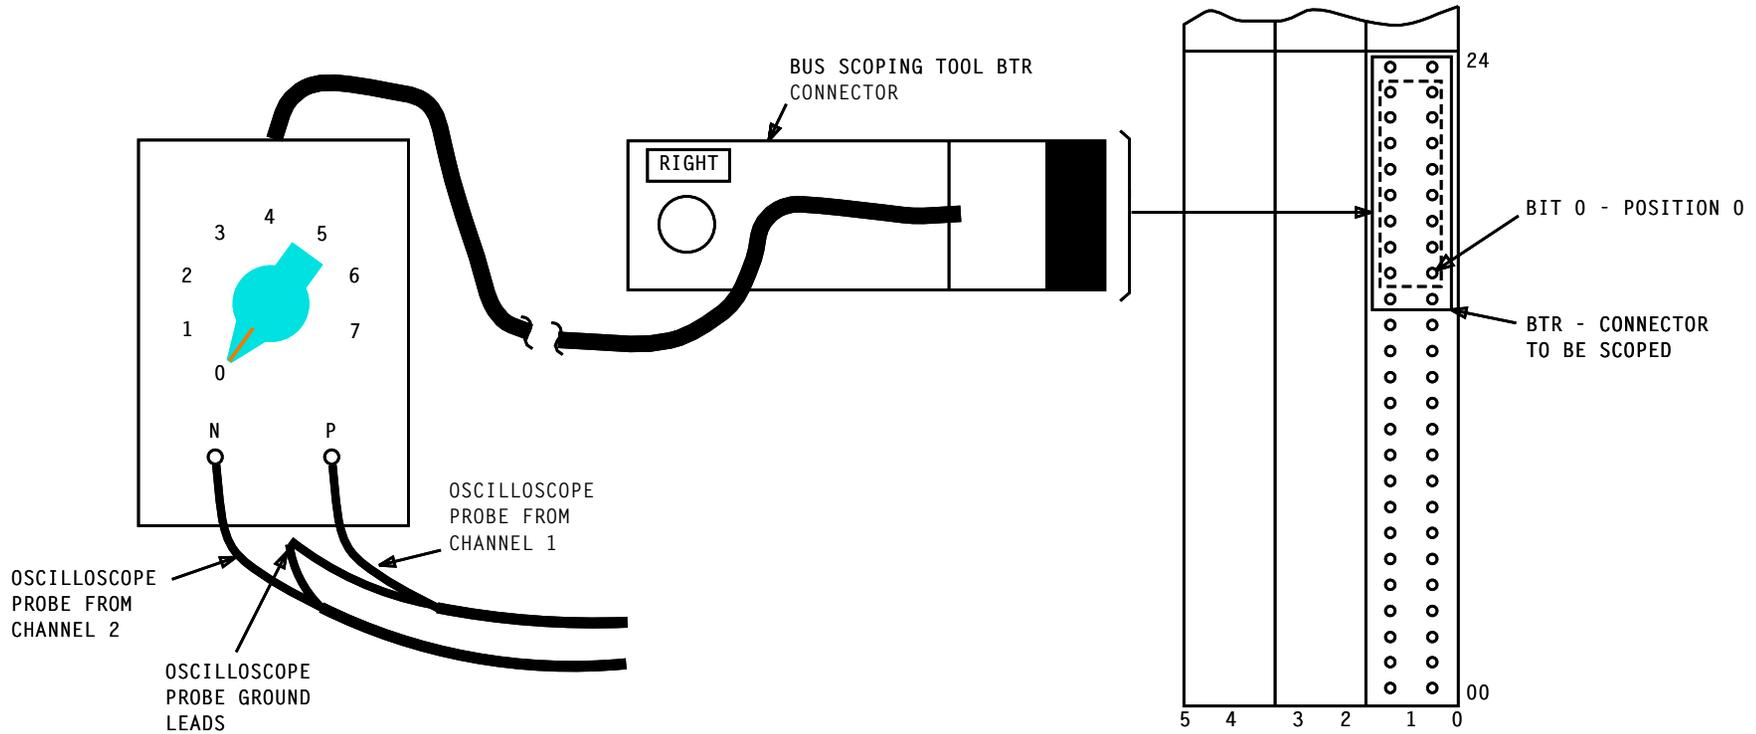

Figure 2 - Bus Scoping Tool, Oscilloscope Probes and BTR Connections for Scoping Auxiliary Unit Bus (AUB)
[4] Connect another X10 probe to channel 2 of oscilloscope; wrap channel 2 probe lead around channel 1 probe lead and connect to negative (N) pin of bus scoping tool [Figure 2, Page 3]